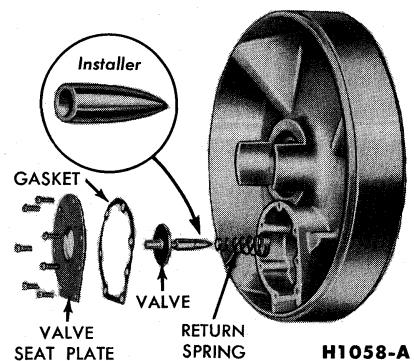

FIG. 44—Fast Application Valve and Seat
20. Turn the center plate over and remove the valve seat plate screws and plate, the gasket, valve, and return spring from the center plate (Fig. 44).
8. Position the center plate as shown in Fig. 44, then place the return spring on top of the seal with the small end at the top. Install the bullet-nosed tool on the threaded end of the valve shaft, and insert the valve shaft through the seal. Position the gasket on the center plate.